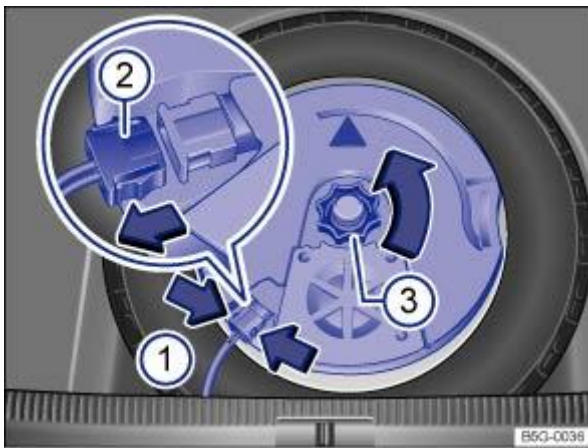

Fig. 142 In the luggage compartment: removing subwoofer (type 1).
To release the connector ⇒ Fig. 142② , press the lugs together ⇒ Fig. 142 (arrow ①).
Pull off the connector ⇒ Fig. 142② in the direction of the arrow and place the disconnected the electrical cable to one side.
Unscrew handwheel ⇒ Fig. 142③ in direction of arrow.
Plug in connector ⇒ Fig. 142② until it audibly engages.
Screw the handwheel ⇒ Fig. 142③ onto the threaded pin in the opposite direction to the arrow until the subwoofer is properly secured.